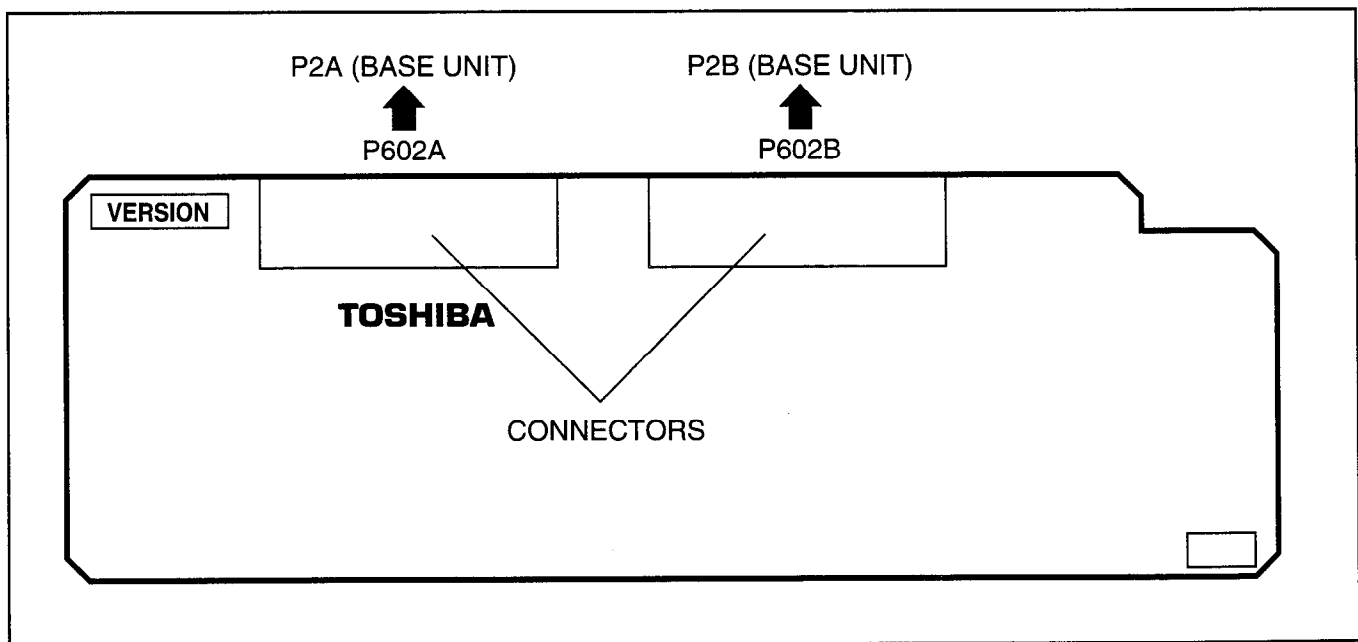

FIGURE 5-22
14.21 Install the K4RCU in accordance with the following steps (Figure 5-22).